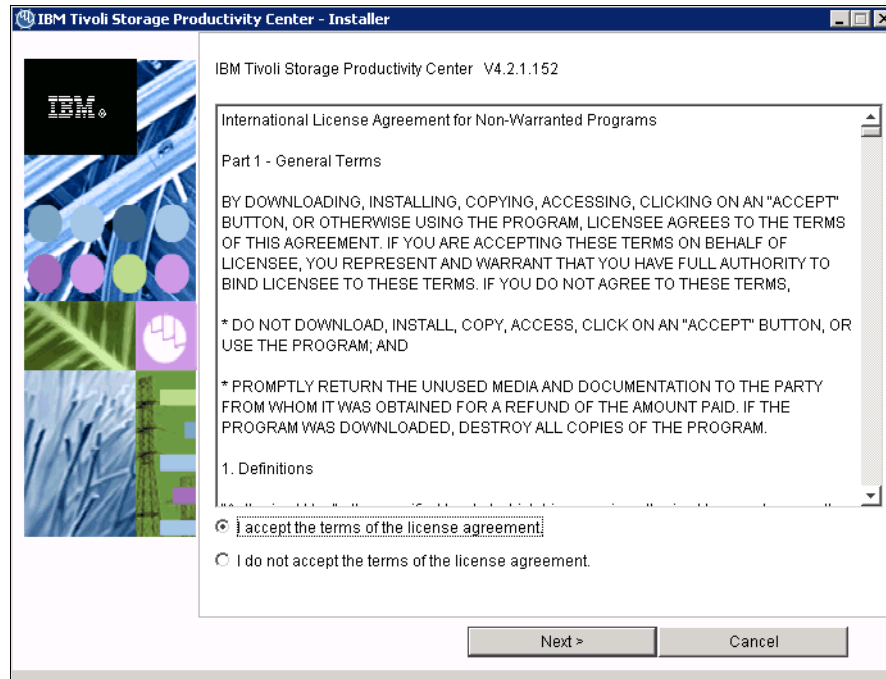

Figure 12-23 Accept the license agreement
3. Read the terms of the license agreement, select **I accept**, and click **Next** (Figure 12-23).